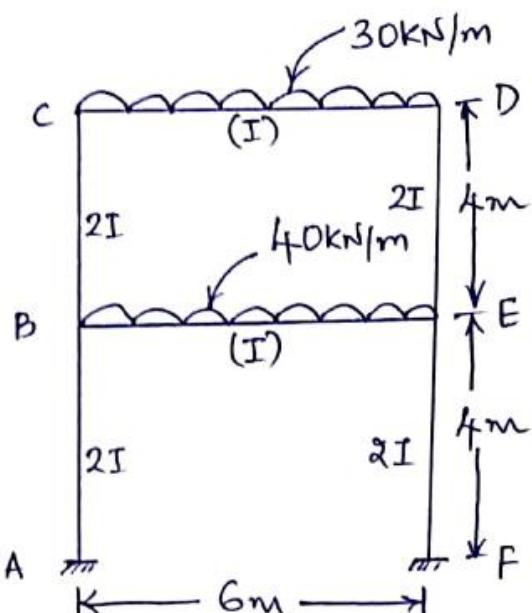

Fig. Q.3
- 3 Analyze the rigid portal frame shown in figure Q.3 by taking the advantage of symmetry using Kani's rotation contribution method. Also draw bending moment diagram.